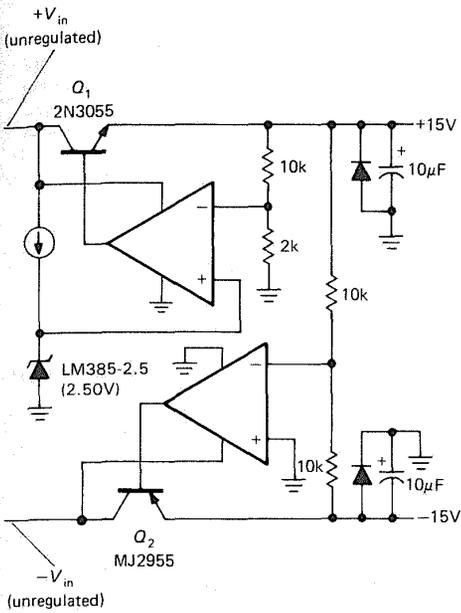

Figure 6.34. Dual-tracking regulator.
□ **Dual tracking regulators.** Given the need for regulated split supplies, you might wonder why there aren't "dual 3-terminal regulators." Wonder no more - they exist and are known as "dual tracking regulators." To understand why they have such a complicated name, take a look at Figure 6.34, which shows the classic dual tracking regulator circuit.  $Q_1$  is the pass transistor for a conventional positive regulated supply. The positive regulated output is then simply used as the reference for a negative supply. The lower error amplifier controls the negative output by comparing the average of the two output voltages with ground, thus giving equal 15 volt positive and negative regulated outputs. The positive supply can be any of the configurations we have already talked about; if it is an adjustable regulator, the negative output follows any changes in the positive regulated output. In practice, it is wise to include current-limiting circuitry, not shown in Figure 6.34 for simplicity.